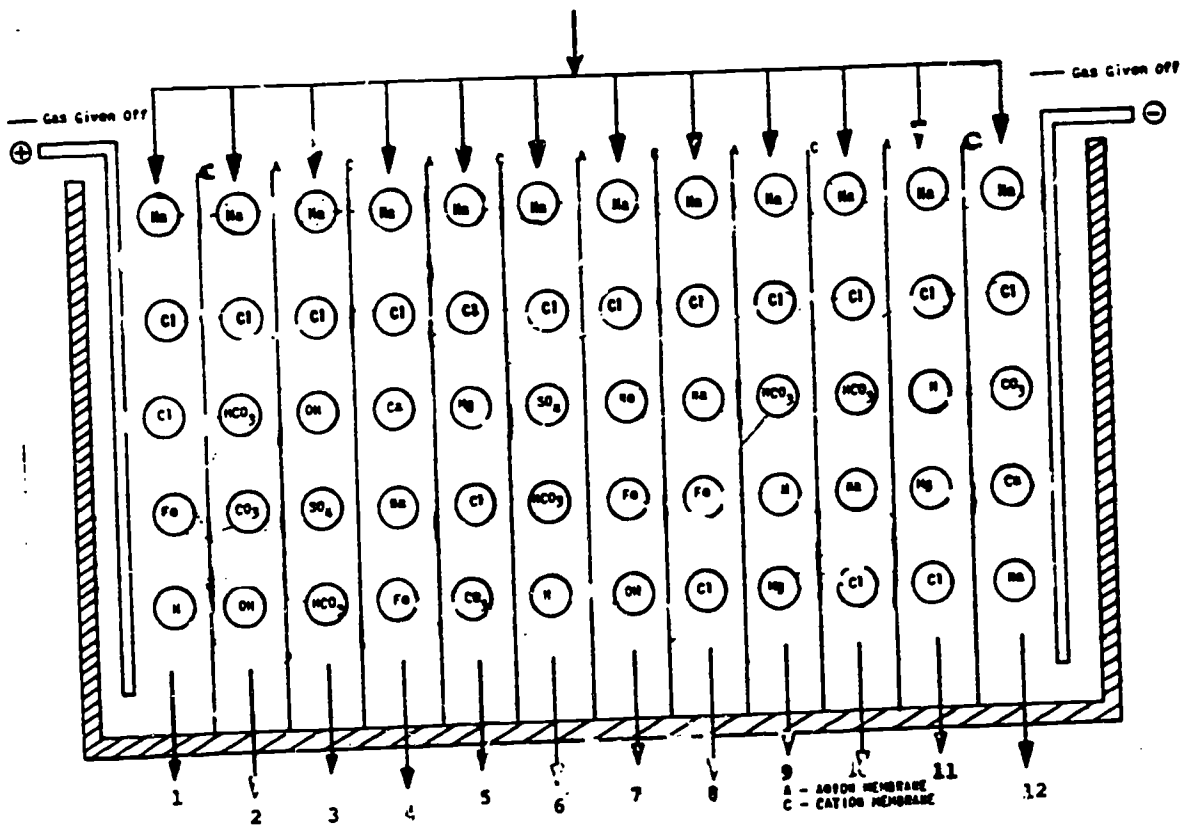

Figure 5-7
1. In figure 5-7, using a pencil, draw a line showing the direction each ion will be moved by the charges on the anode and cathode.
4. Fill in the blanks at the bottom of figure 5-7, identifying the streams as follows: